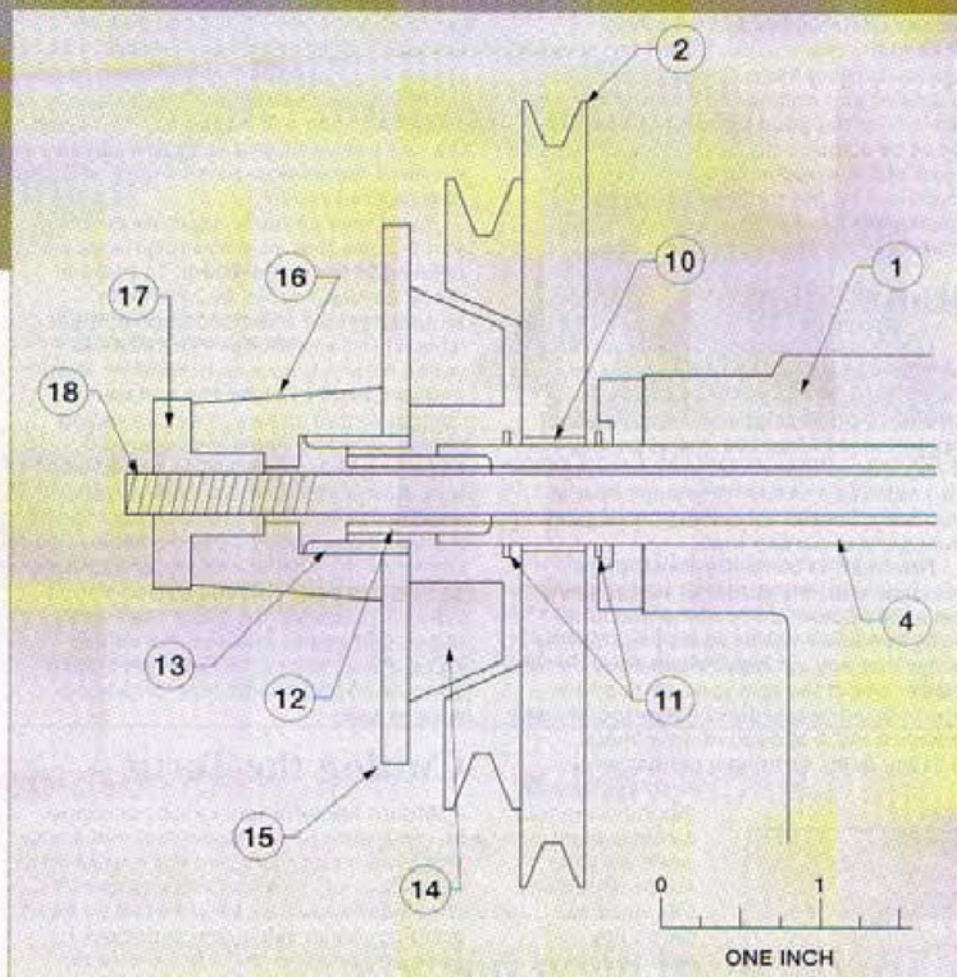

Fig. 1 Motor end of countershaft showing new clutch assembly
The drive of the ML10, and the Myford Speed 10 lathe, is a pulley system, mounted on a separate cast-iron countershaft arm (Figures 1 and 2, Item 1). The countershaft pulley of the ML10 lathe has a flat outer surface, whereas the Speed 10 pulley is
The male portion of the clutch consisted of three parts. The clutch plate itself (14), which was a truncated-cone disc of aluminium alloy, $\frac{9}{16}$ in. thick, bolted to the backing plate (15). The backing plate, of $\frac{3}{16}$ in. hard brass, $3\frac{1}{2}$ in. dia., was provided with a domed central boss (16) which housed the inserted hex. socket mentioned earlier. The general assembly can be deduced from Figure 1 (holding bolts not shown) and from the photograph of the whole clutch shown in an 'exploded' view in Photo. 1. The small fitting on the far left of the photograph is a steel insert (17) into which the disengagement rod (18) was screwed and upon which the disengagement thrust was exerted.